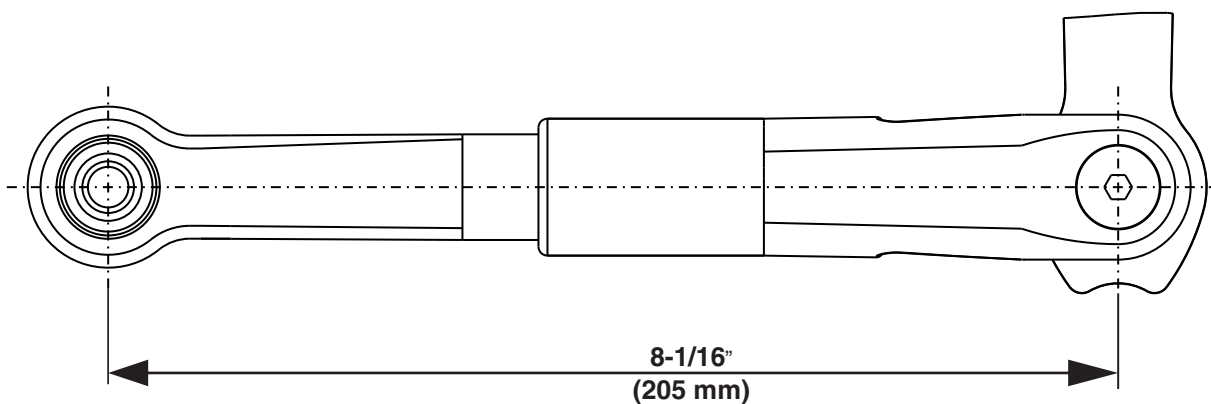

Figure 23
3. Refer to Figure 23, and ADJUST door arm length to 8 1/16" (205 mm).